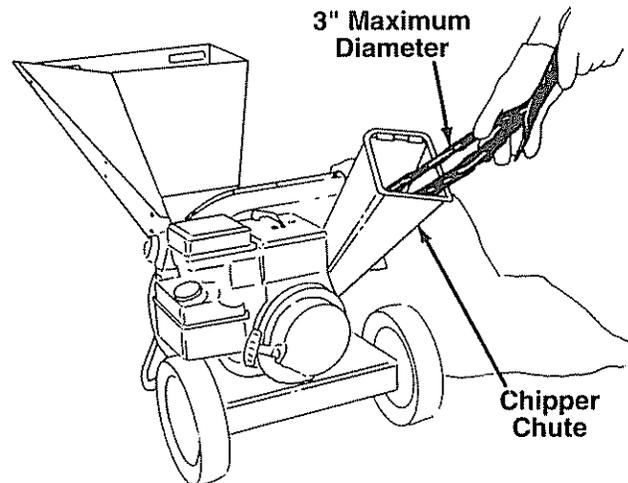

FIGURE 14.
- Bulky material, such as stalks or heavy branches, up to 3" in diameter, should be fed into the chipper chute. See figure 14.